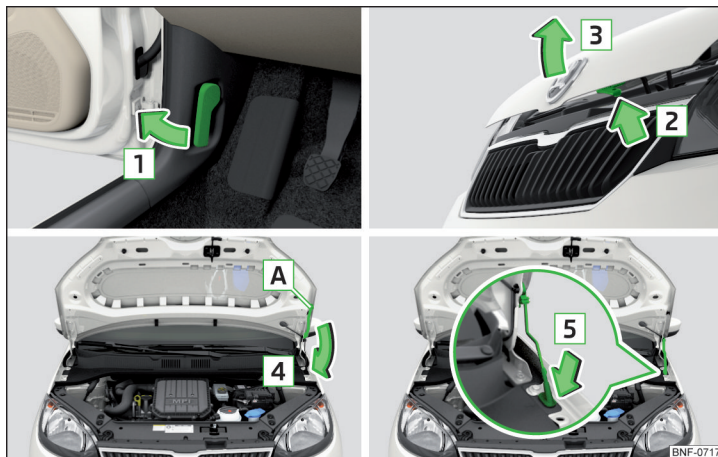

Fig. 106 Opening the bonnet
- Press the release lever in the direction of the arrow  » Fig. 106.
Never open the bonnet by the locking lever » Fig. 106.